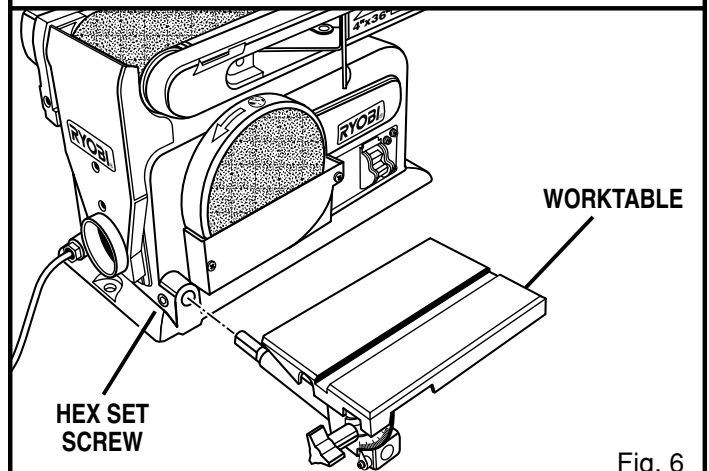

Fig. 6
See Figure 6.
- Insert the index pin into the hole as shown in figure 6.